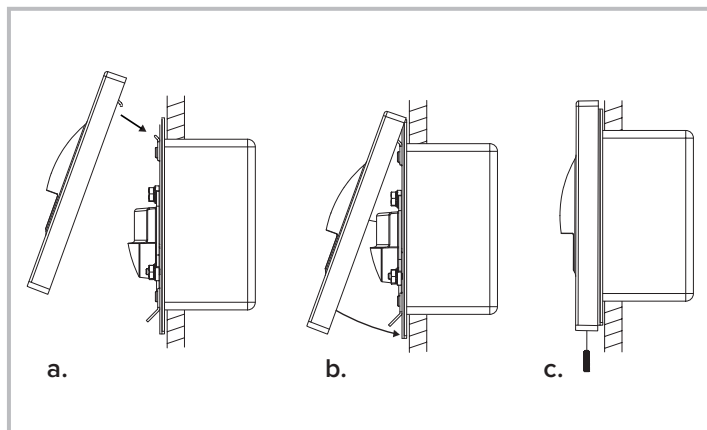

Figure 6: Installing the Face Plate
- Angle the Face Plate so the top edge catches on the cleat on the Back Plate as shown in **Figure 6**.